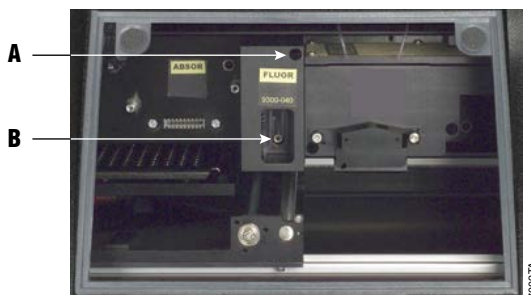

Figure 55. Arrows A and B point to the two captive screws on the fluorescence module.
5. Hand-tighten the two captive screws using the Allen Wrench (size 7/64 inches) provided with the kit. Using too much force may damage the screws. See Figure 55 to locate the screws, A and B.